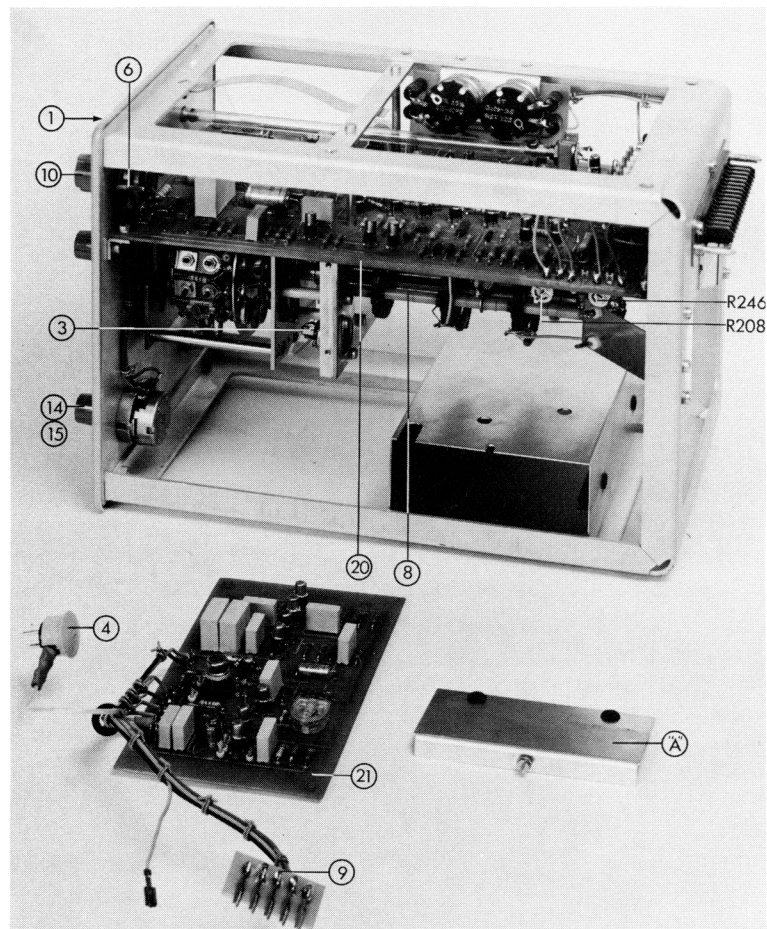
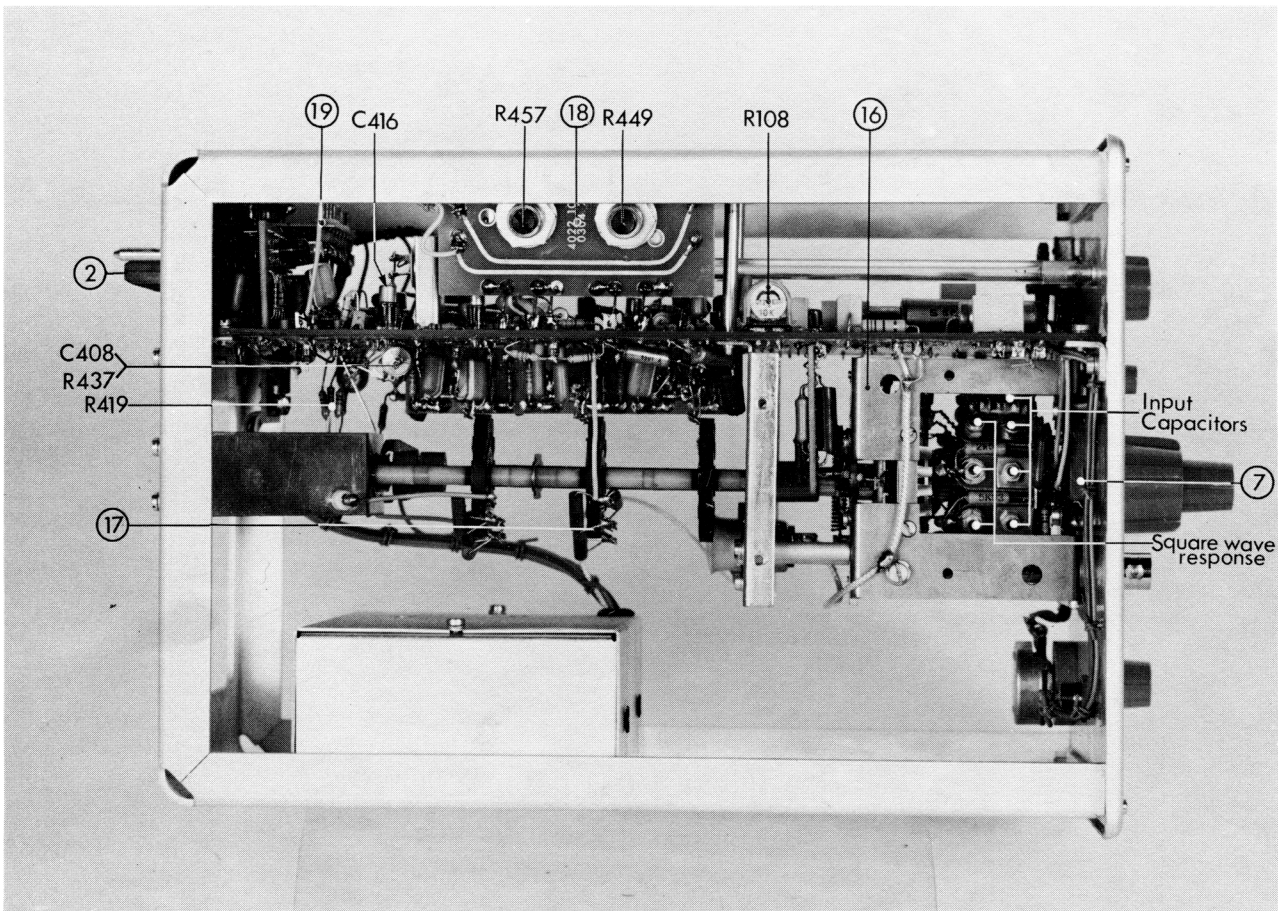

Fig. 15. Right hand side of amplifier
Fig. 16. Left hand side of amplifier
The chopper amplifier may be removed from its housing after the withdrawal of lid "A" (Fig. 15) a five-pole plug, a three-pole plug and a single-pole plug. If measurements are made while the chopper amplifier is out of its housing, adequate screening precautions should be taken to avoid hum.
#### R108 (Fig. 16)
#### R246 (Fig. 15) R449, R457 (Fig. 16)
R208 (Fig. 15), C408, C416, R437 (Fig. 16).
- Unsolder R419 (Fig. 16) at the side of the potentiometer R2 and apply a square wave voltage with a rise time of about 1 ns via a terminated 50  $\Omega$  cable. For a 4 cm deflection the amplitude must be about 200 mV.